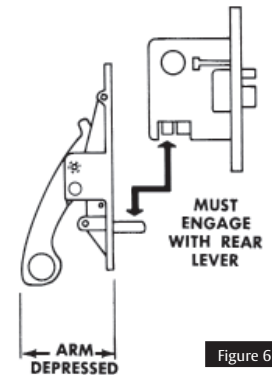

Figure 6
- a. Remove cover from center case chassis. Lock down arm. (For exit devices less the cross bar lock down feature, hold arm in depressed position.) See Figure 6.